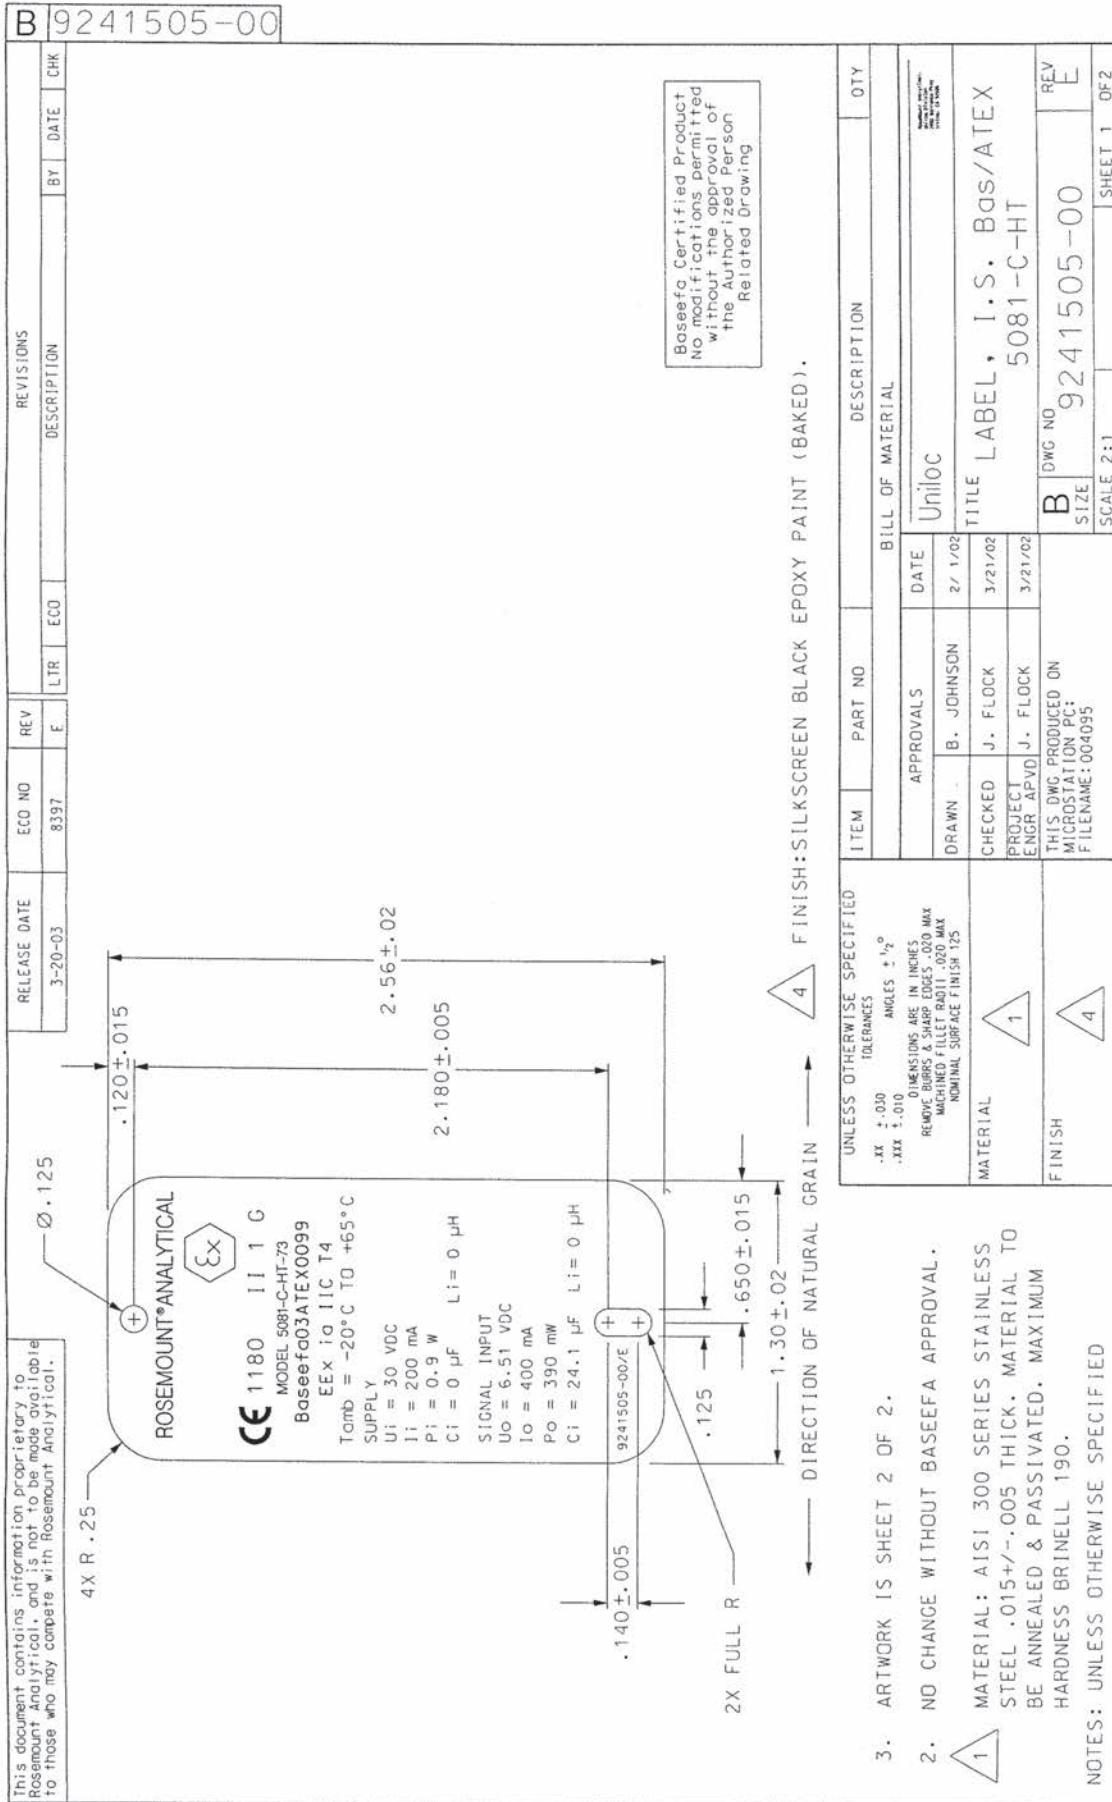

FIGURE 4-8. ATEX Intrinsically Safe Label for Model 5081-C-HT
- For ATEX intrinsically Safe Label, see Figure 4-8.